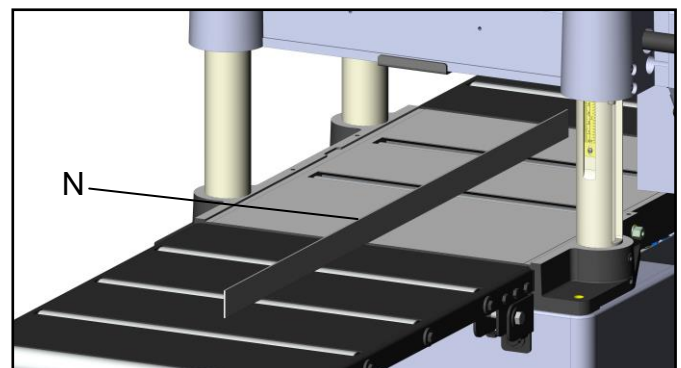

Fig. 6
6. Place a straight edge (N) across the main table and the extension tables to be adjusted, Fig. 6.